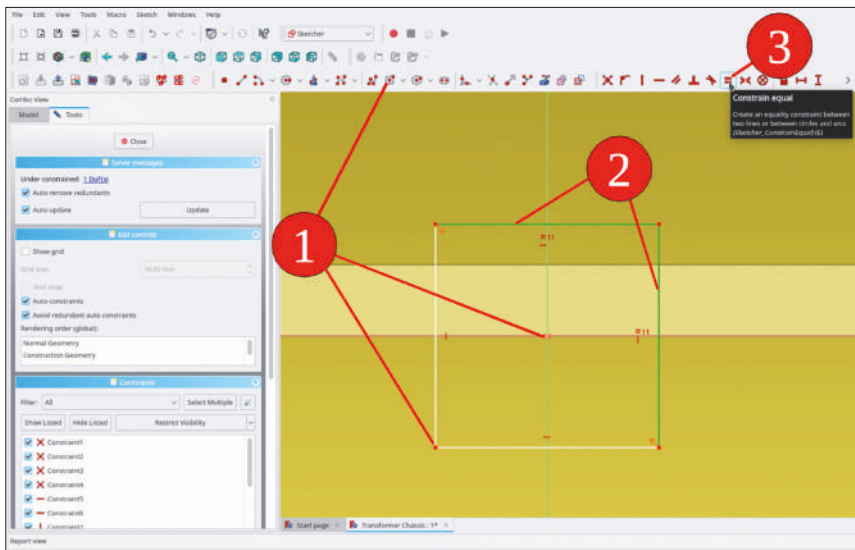

Figure 9-59
27. Draw a rectangle that is centered around the origin. Mark one horizontal and one vertical side of the rectangle and click the 'Constrain equal' tool button (Figure 9-59).